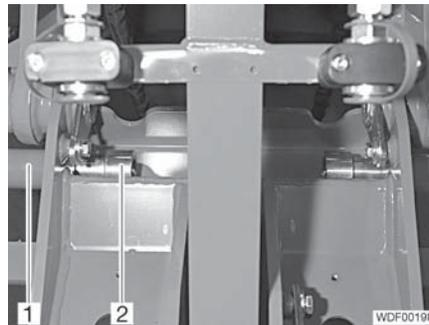

Fig. 327 Locking pin
- Remove the locking pin (Fig. 327,2) inwards out of the guide (Fig. 327,1).